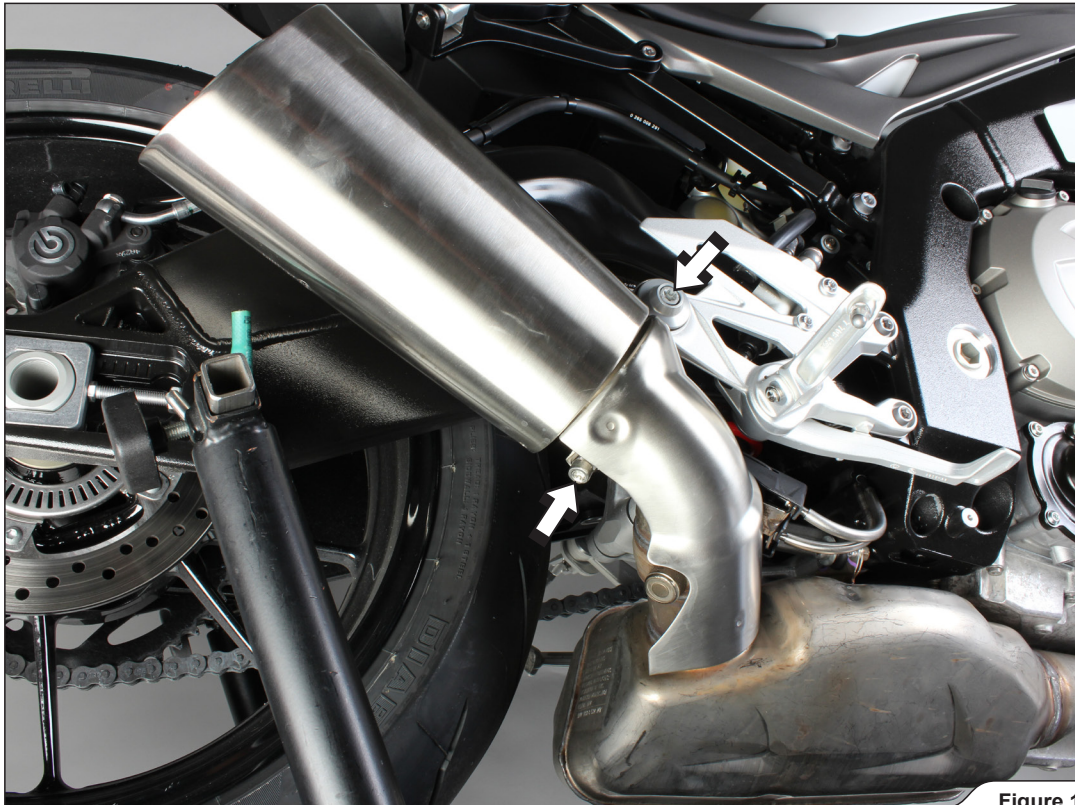

Figure 1
2. Loosen the marked clamp, unscrew the muffler's bracket bolt and remove the muffler with heat shield off the motorcycle (**Figure 1**).